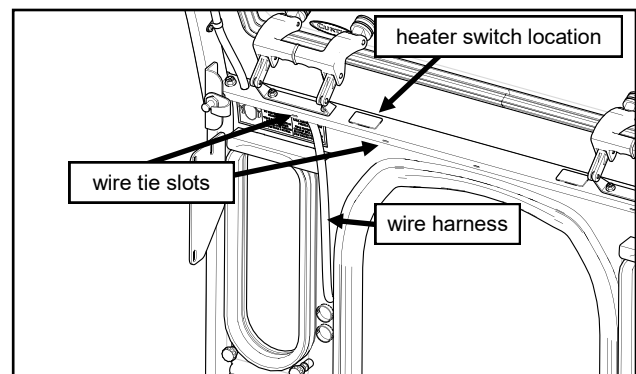

Fig. 11.3 (wire harness installation onto cowl)
**11.3** Per figure 11.3, remove the smaller plug from the front of the cowl and feed the switch end of the harness thru the hole. Run the switched power wiring harness up to the heater switch location and secure the harness to the cowl using a wire tie in the slot. Make sure to leave accessibility to the cowl windows' mounting knob and optional heater if being installed.